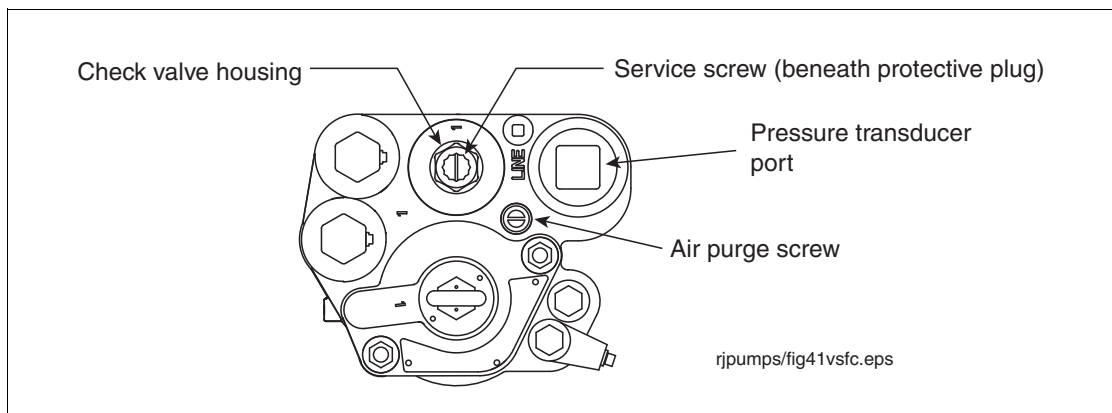

Figure 37. Locating Air Purge Screw
2. Remove and save the protective plug in the top of the check valve housing and turn the service screw clockwise (see Figure 37). As the screw approaches its bottom position, you will hear the system depressurizing. Continue turning the screw until it can go no further. When the screw is all the way down, back off the screw 4 turns to lift the check valve and let the fuel drain out of the manifold's hydraulic cavities.
5. Locate the air purge screw on the top of the manifold (Figure 37).